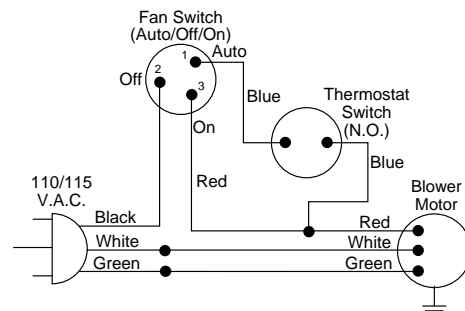

Figure 15 - Wiring Diagram For Blower Accessory Standard Installation
4. Carefully disconnect green and white wires at their insulated connectors (see Figure 15).